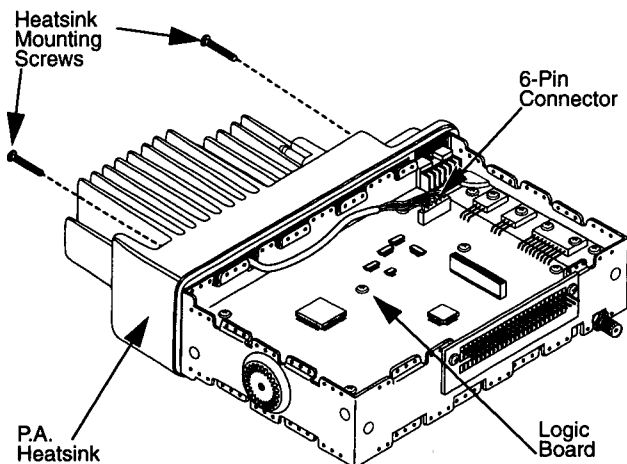

Figure 1-4.
2. Disconnect the 6-pin connector from the logic board (Figure 1-4).
3. Remove the two heatsink mounting screws using a T15 Torx driver (Figure 1-4).
- Remove the chassis shield of the logic board side of the transceiver by prying each of the four corners at the indentations provided. Be careful not to over bend any one corner. (Refer to Figure 1-4.)